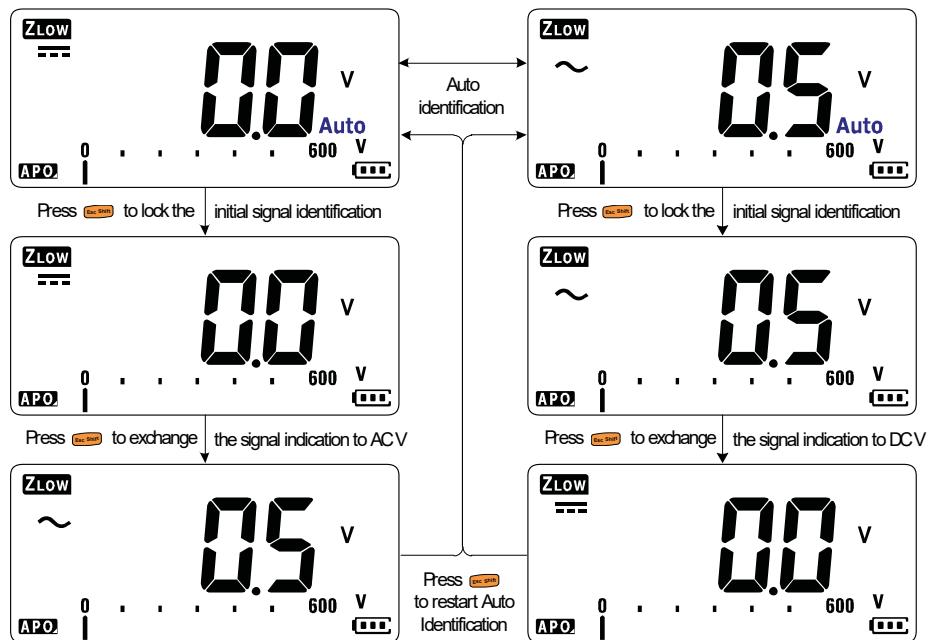

Figure 2-7 VZ_{LOW} auto identification flow
- Press **Esc Shift** once to lock the initial signal identification ($AC\ V$ or $DC\ V$). Press **Esc Shift** again to exchange the AC and DC voltage indication on the primary display. Pressing **Esc Shift** for the third time will restart the auto identification of the signal. See Figure 2-7 to learn more.